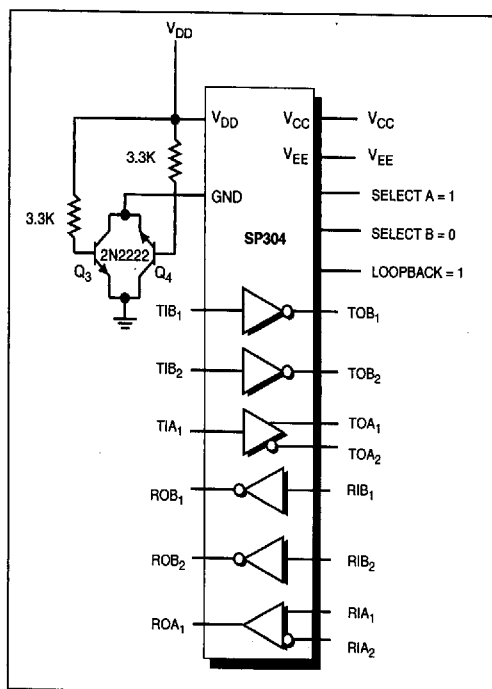

Figure 2. Typical Circuit
Figure 2 shows a typical circuit for the SP304. In this case the SP304 is shown configured for one (1) duplex RS-422 and two (2) duplex RS-232 communication paths.